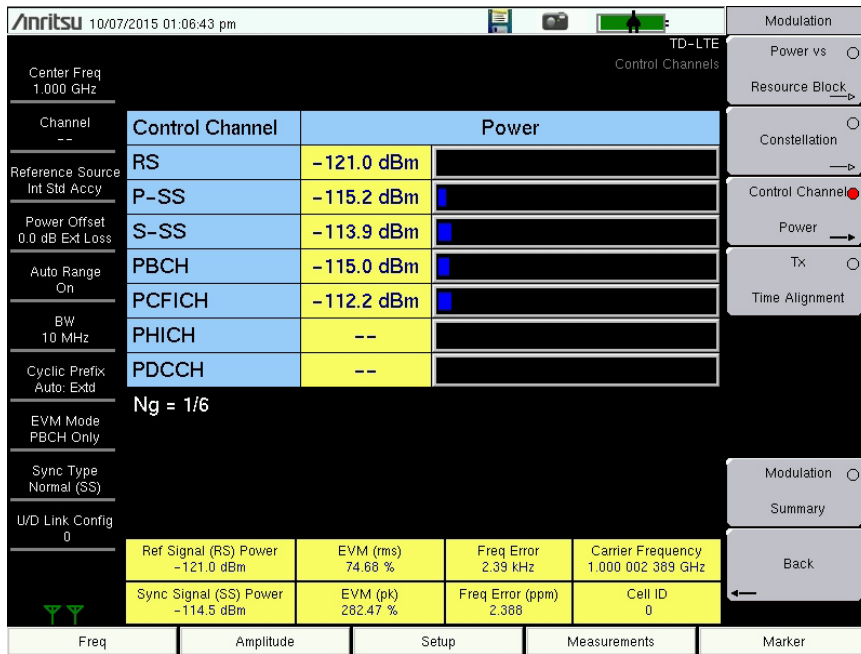

Figure 6-9. Control Channel Power
This measurement shows the power levels of key physical layer Control Channels and also includes the numerical results table described in the “Constellation” section above. EVM per control channel is also available, as well as a table view showing the power in both per-resource-element and total power formats. See Figure 6-9 on page 6-14.
3. Press the Control Channel Power submenu key to activate the Control Channel Power display in table format (Figure 6-9). Press the key again to view or change the Display Mode and Control Channel EVM settings.